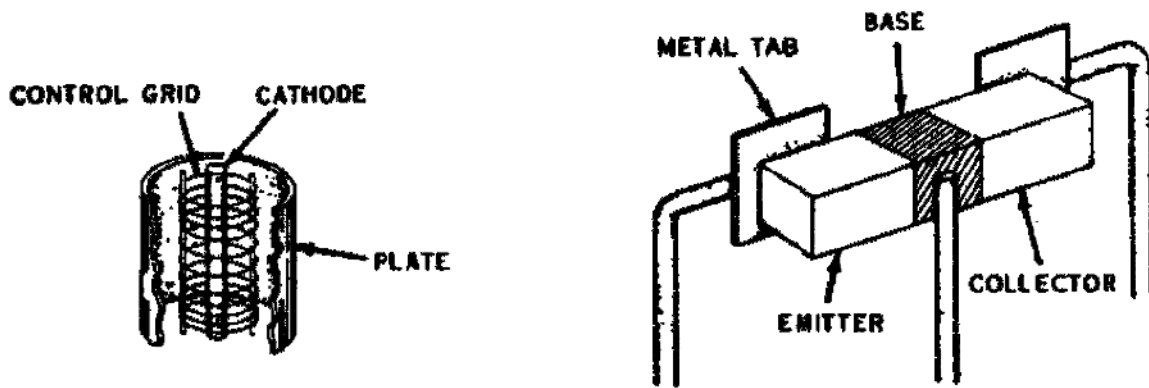

Figure 117. Structure of a triode vacuum tube and a junction transistor.
29. The main current flow in an electron tube is from cathode to plate (shown in fig. 117). In a junction transistor, the main current flow is from emitter to collector. The electron current in the electron tube passes through a grid. In the transistor, the electron current